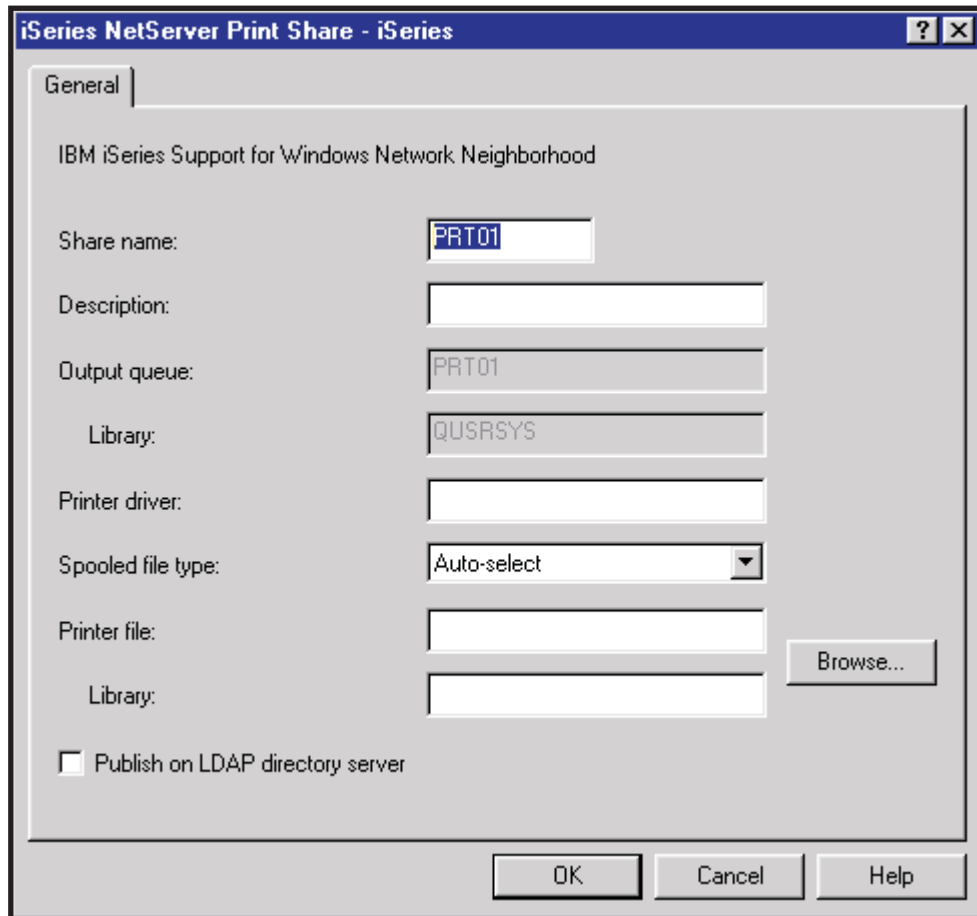

Figure 187. iSeries NetServer Print Share Dialog
6. The **iSeries NetServer Print Share** dialog opens, as shown in Figure 187 on page 276.